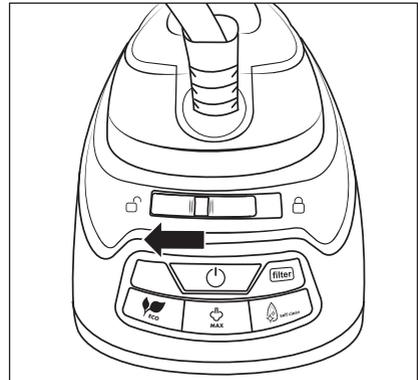

Fig. 4
- 2) Unlock the steam iron **1** by sliding the locking switch **15** to the left towards  (unlocked) (see Fig. 4).